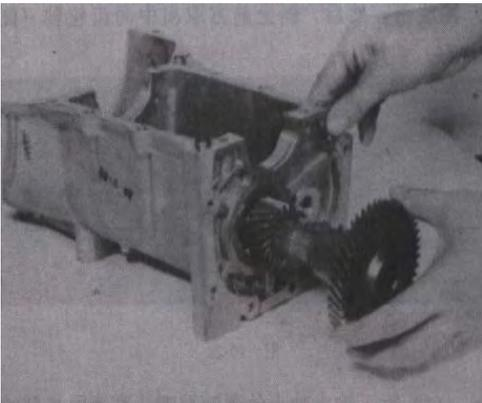

Fig 10-21
- (3) Remove countershaft 5th gear and counter-shaft reverse gear. (FIG.10-21)